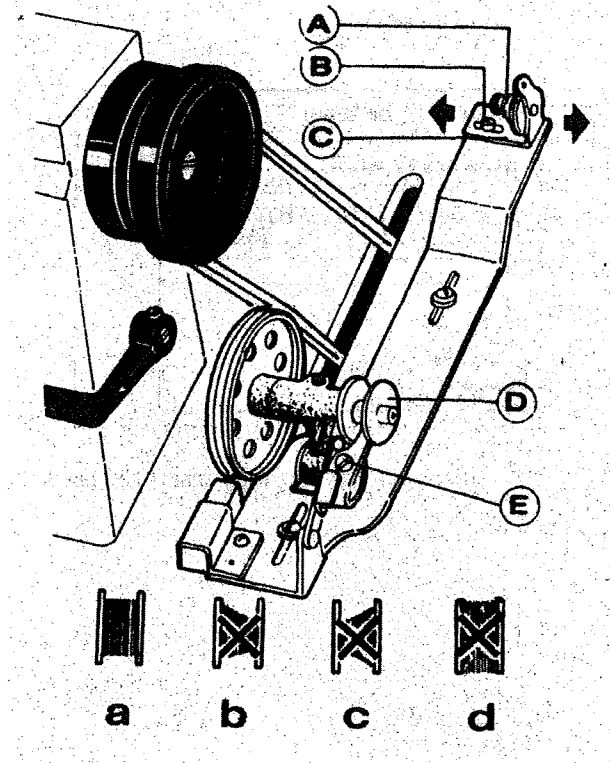

Fig. 17
2) Winding adjustment (Fig. 17)